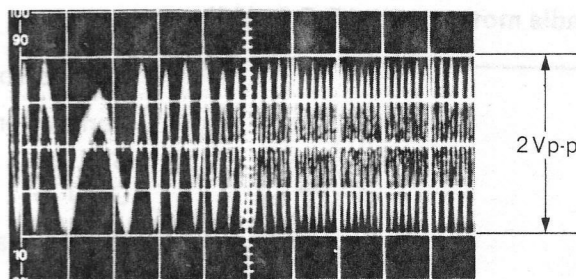

Fig. 7
Step 2 Adjust VR201 (Head Amp Gain Adjust) so that the waveform amplitude on the oscilloscope is 2Vp-p. $\pm 0.2V$. (Ref. Fig. 7)